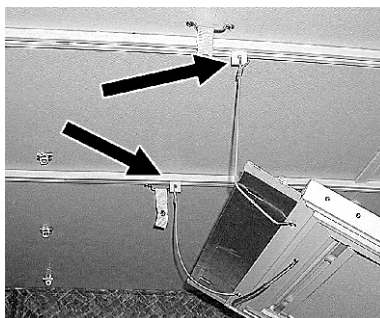

Fig. 16
14. Swing the door down following the ceiling tracks (Fig. 16) and place the bottom of the door in the threshold opening of the entrance door.
3. Remove the door from the top and bottom tracks. Slide the door to the travel position along the tracks (Fig. 16) located on the ceiling and lock it in place with the turn button (Fig. 15) located on the bottom of the door by turning 1/4 turn. Snap the ties holding the door to the roof (Fig. 14).